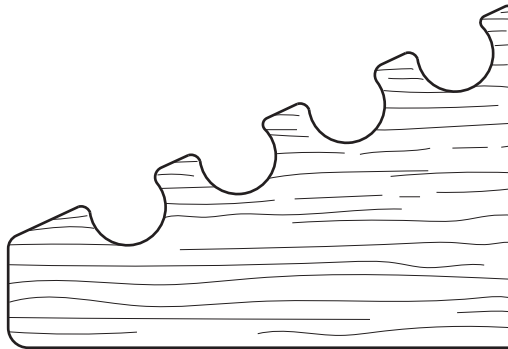

Fig. 6
- 8 Fig. 6 shows part of a garden tool rack.
- (a) Indicate clearly on Fig. 6 **one** example of 'short grain'. [1]